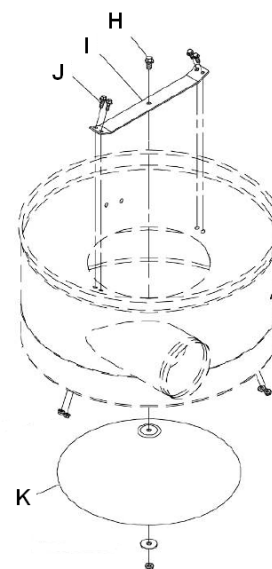

Fig 8
Mount the cone support bracket (I, Fig 8) to the housing with 4 hex cap screws (J) and nuts.